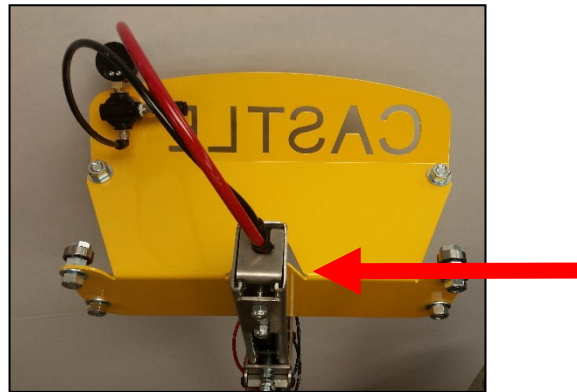

Fig 58
3. To remove the upper clamp cylinder assembly you will want to remove the Top Bracket and the rear plumbing bracket located at the upper end of the Clamp Arm. (Fig 58)